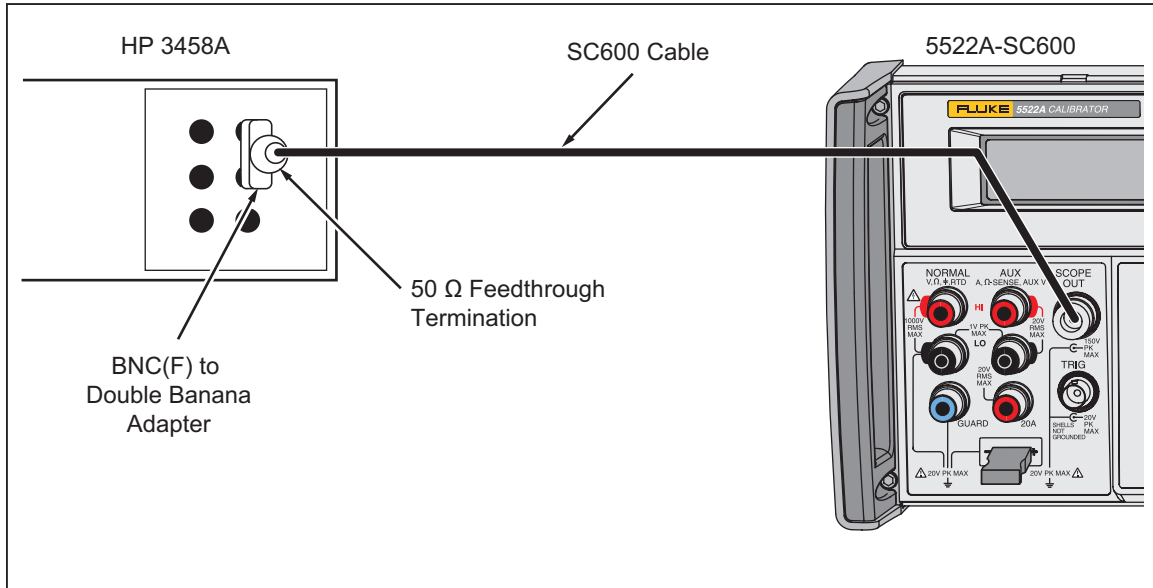

Figure 6-4. Equipment Setup for SC600 Edge and Wave Gen Square Wave Measurements
The setup to measure the topline and baseline of Edge and Wave Generator signals is a little different from the Voltage Square Wave method given above. The HP 3458A is triggered by a change in input level rather than an external trigger. The trigger level is set to 1 % of the DCV range, with ac coupling of the trigger signal. The delay after the trigger event is also changed for the Edge and Wave Generator functions. See Table 6-3 and Figure 6-4.
For all measurements, the HP 3458A is in DCV, manual range, with level triggering enabled. A convenient method to make these measurements from the front panel of the HP 3458A is to put these parameters into some of the user-defined keys. For example, to make topline measurements at 1 kHz, you set the DMM to “NPLC .01; LEVEL 1; DELAY .0002; TRIG LEVEL”. To find the average of multiple measurements, you can set one of the keys to “MATH OFF; MATH STAT” and then use the “RMATH MEAN” function to recall the average or mean value. Refer to Figure 6-4 for the correct connections
See Figure 6-4 for the correct equipment connections.
This procedure uses the same equipment and setup as DC Voltage calibration. Refer to Figure 6-4. DC voltages are measured and typed in to the Calibrator to calibrate the AC Voltage function.
1. Setup the equipment as shown in Figure 6-4.